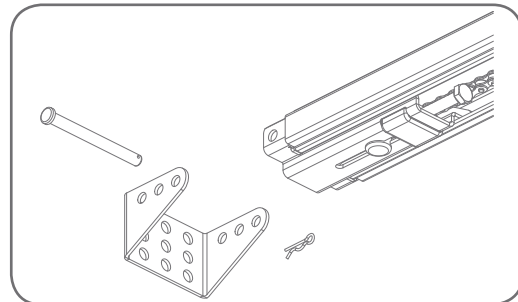

fig 18
- Attach the C-Rail assembly to the wall bracket with the 90mm long clevis pin and secure with the supplied snap pin (**Fig. 18**)
- Attach the bracket and C-Rail with supplied pins (Fig. 18).